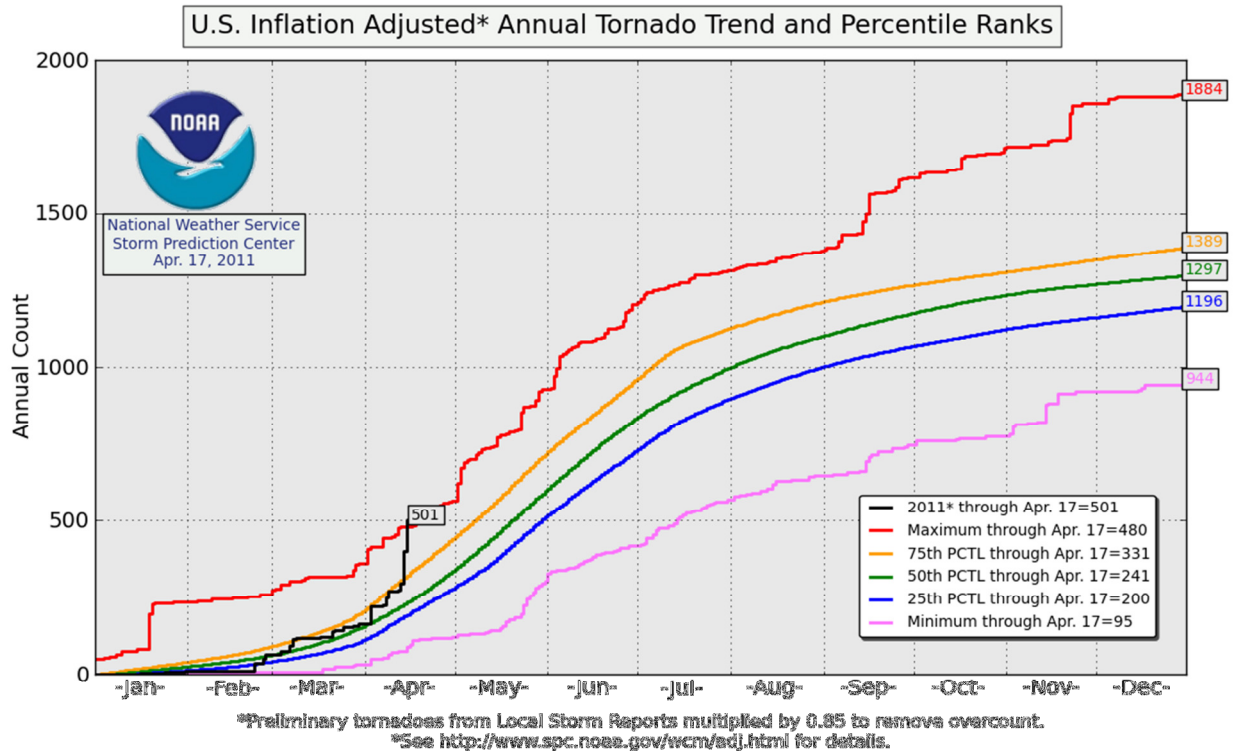

Figure 1 – Annual Tornado Trend (April 2011) / Source: U. S. Government, NOAA, NWS, SPC
With typically 1,000 tornadoes occurring annually in the United States, the National Weather Services – Storm Prediction Center (NOAA NWS SPC - Figure 1) reported over 501 of these severe weather events by mid-April, 2011. The NWS is investigating 267 preliminary tornado reports, over six (6) states, from the April 15-17, 2011 storm track. At this rate, the maximum number of mid-April occurrences (480) has been exceeded and we are on track to exceed the current record of 1,884 annual tornadoes. The highest number of recorded tornadoes is 543 during May 2003.